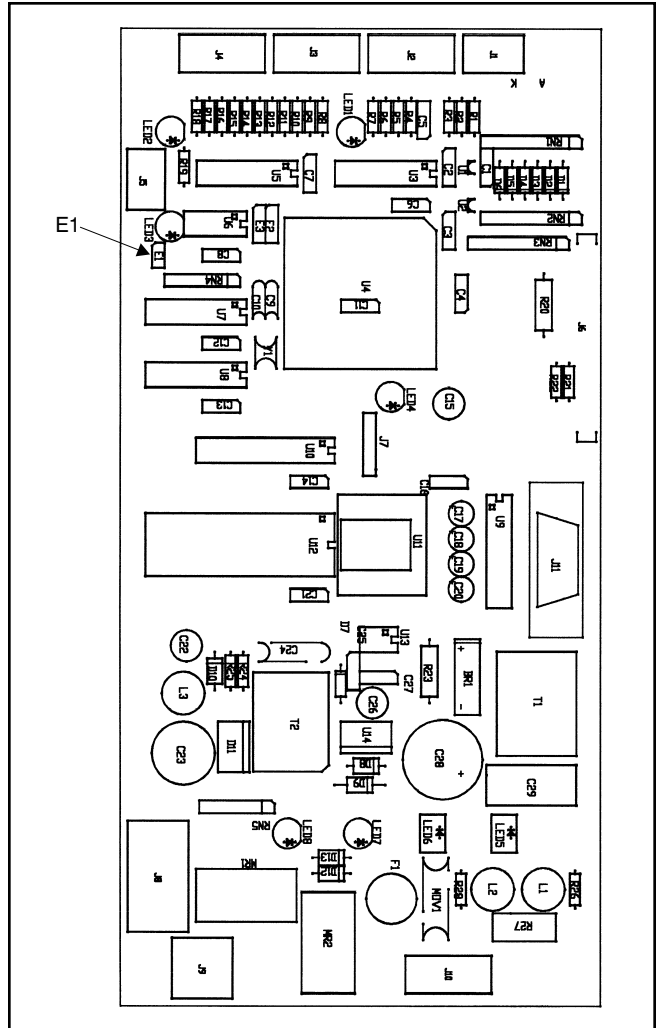

Figure 3. System Operation Monitor Board Layout
2. Jumper across terminal E1 (see Figure 3) on the back of the display.